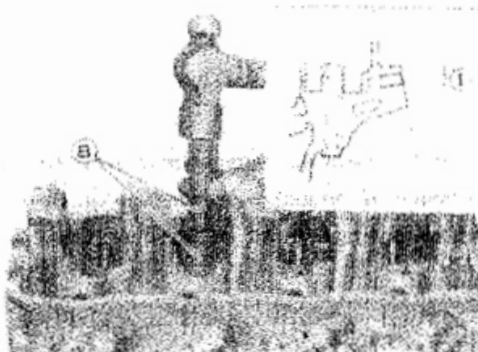

Fig. 3-61
- 2) Heat the cylinder head uniformly to anywhere between 80°C and 100°C (176°F-212°F) so that the head will not distort, and drive the oversize guide into the hole with the valve guide installer set (B). See Fig. 3-61. Be sure to carry out this step speedily so that all guides will go into the cylinder head in steady temperature state.